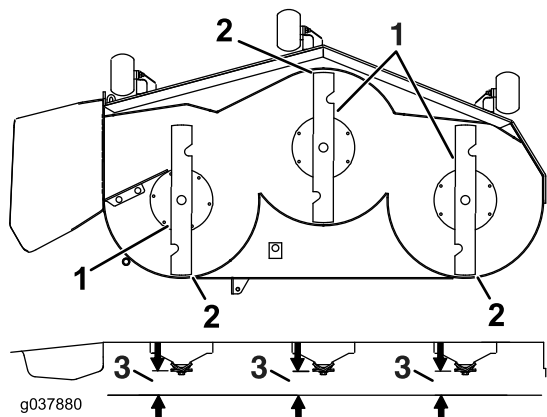

Figure 82
7. Check the front-to-rear blade level (Figure 82). Ensure the front blade tip is lower than the rear blade tip as shown in the block height and rake table. If adjustment is needed, continue with this procedure.